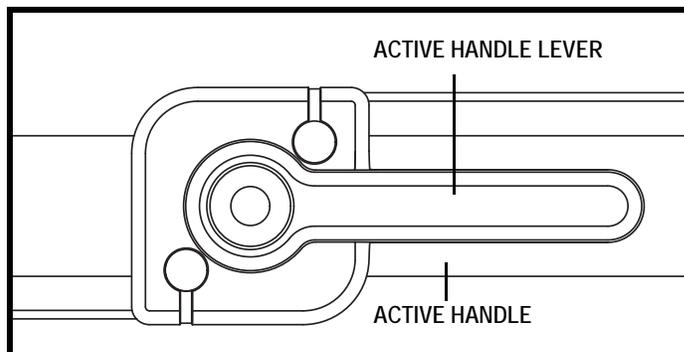

Figure 14. The Kids FAST ACTIVE Handle (OFF)
2. Ensure that the ACTIVE handle lever, which is located on the front of the ACTIVE handle, is in the OFF position (parallel to the ACTIVE handle). **See figure 14.**
4. Apply forward pressure to the push handle, and turn the ACTIVE lever to the OFF position (parallel to the ACTIVE handle). **See figure 14.**